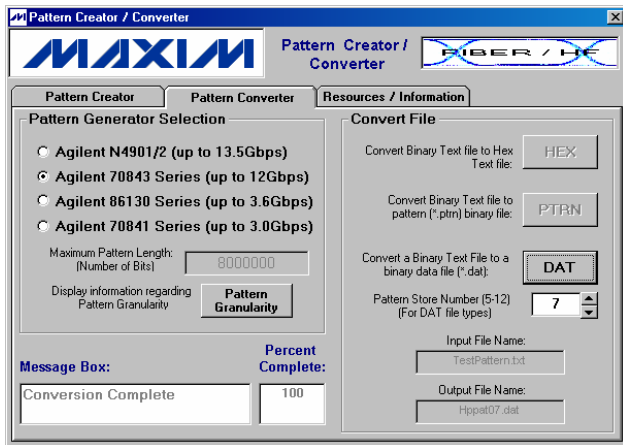

Figure 19. Converter Example Step #5
5. After clicking the **Save** button, the program will then convert the file and display a message when it has completed (Figure 19). The pattern can now be read and used by the pattern generator.